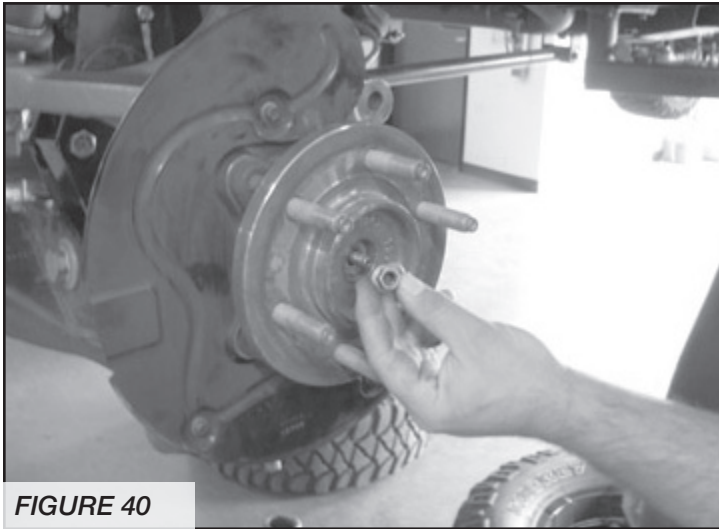

FIGURE 40
41. Install the dust shield and torque to 14 ft-lbs. Install CV shaft nut and torque to 35 ft-lbs. Install the factory dust cover. **SEE FIGURE 40**